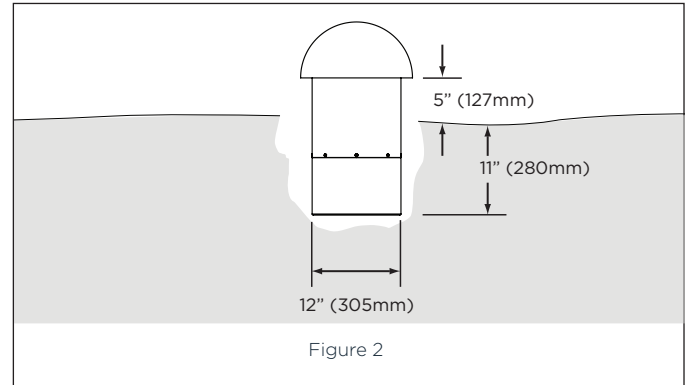

Figure 2
**NOTE: The subwoofer requires a burial space that is about 12" diameter and 11" deep. When subwoofer is in the ground, ensure that there is roughly 5" of exposed subwoofer enclosure from the surface of the ground to the bottom edge of the canopy. See figure 2.**